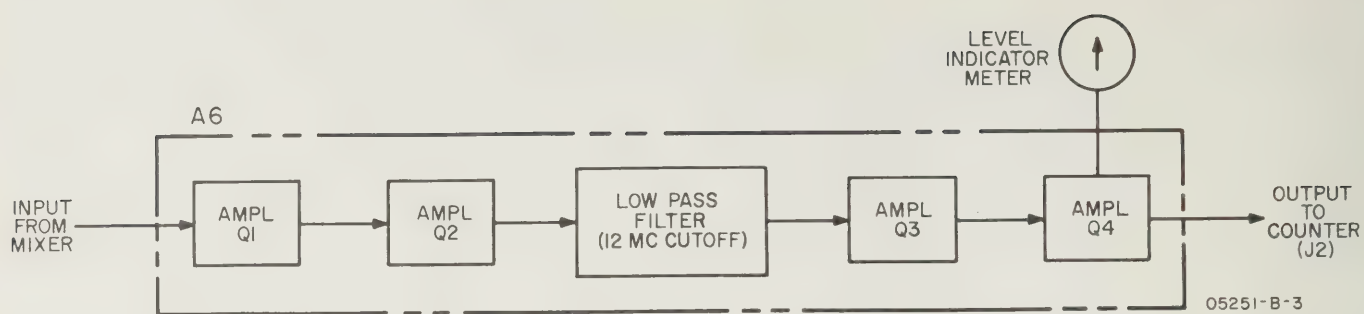

Figure IIA-2. Video Amplifier (A6)
IIA-15. The output of the mixer circuit is amplified by transistors A1Q1 and A1Q2 and is fed to the 12-Mc low-pass filter network (see Figure IIA-2). This filter passes any signal frequency below approximately 12 Mc and attenuates all higher frequency signals. The low-pass filter output is amplified by A1Q3 and fed to the last transistor amplifier, A1Q4, which provides both the output to the counter and the drive for the level indicator meter. The limiter diode, A1CR1, prevents the amplitude of the video amplifier output signal from exceeding approximately 300 mv RMS so that counter input circuits will not be overloaded. The low frequency limit of the video amplifier, determined by the bypass and interstage coupling networks, is approximately 100 kc. The converter output signal to the counter, when converter is properly tuned, will be between approximately 100 kc and 12 Mc and will have an amplitude that is less than approximately 300 mv RMS.
- c. Adjust controls as shown in Figure IIA-2.